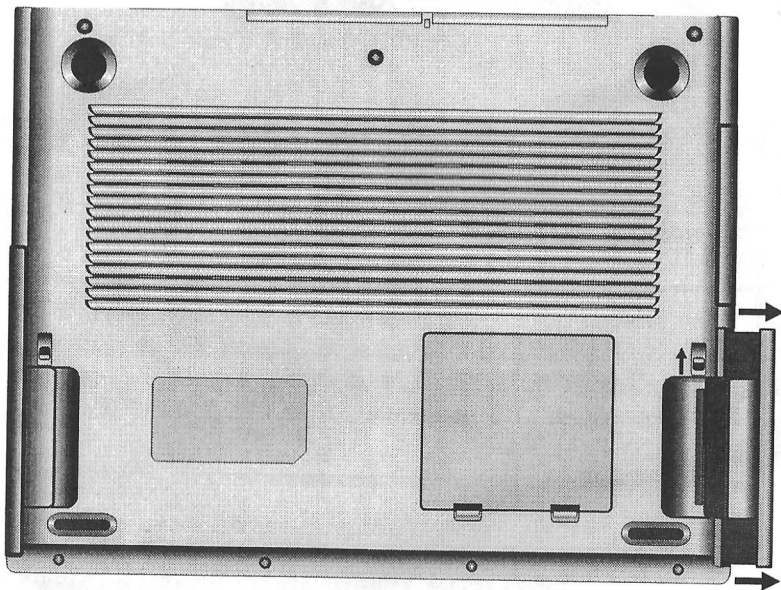

Figure 6-3: Removing and Inserting the FDD Module
The FDD module comes inserted in your Notebook. Please refer to **Figure 6-3** and the following instructions to install the FDD Drive Module into the Notebook's module bay.
2. Locate the FDD module release latch on the bottom panel of the Notebook. Please see **Figure 6-3** if you are uncertain of its location.